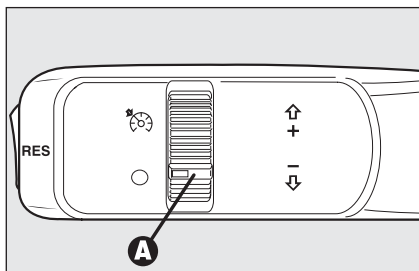

fig. 46
Turn knurled ring **A-fig. 46** to .
- ☐ turn the knurled ring **A-fig. 46** to  and press the accelerator pedal to the required speed;
- ☐ turning the knurled ring **A**-fig. 46 to **O**;
In the event of device malfunction or failure, turn the knurled ring A-fig. 46 to O and contact Alfa Romeo Authorized Services after checking the protection fuse integrity.